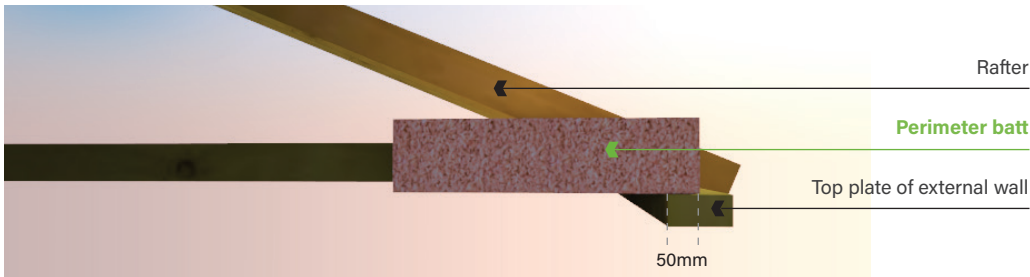

Figure 3
- Take note that the perimeter batt must sit a minimum of 50mm on top of the top plate (Fig. 3).